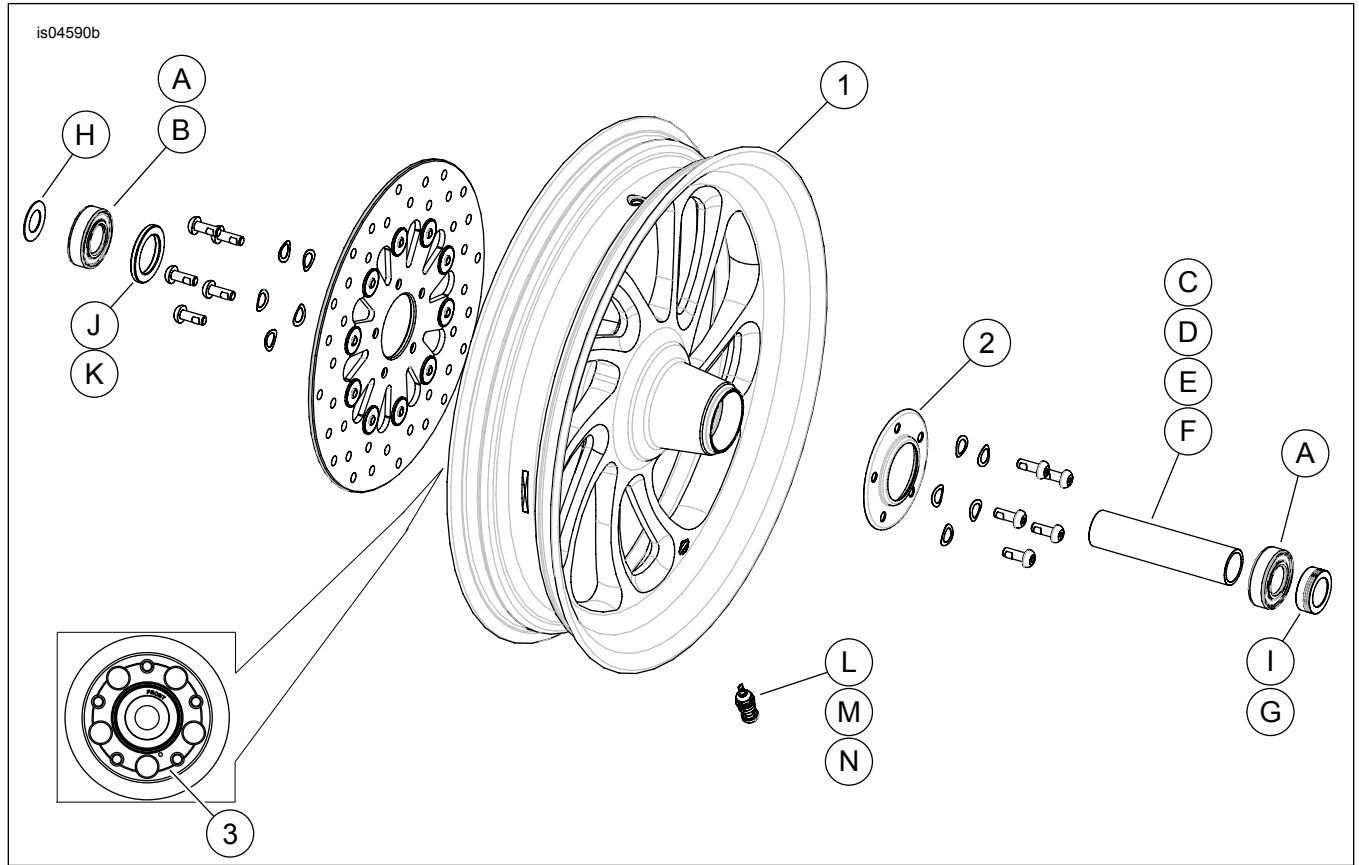

Figure 2. Service Parts: Blade Front Wheel Kits
2. See Figure 2. Install valve stem assembly (L) on wheel. Refer to TIRES in service manual.